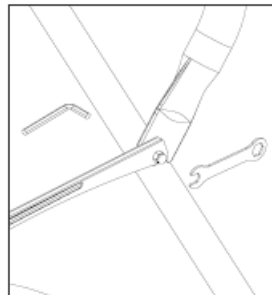

Figure 8
- Figure 8: Now tighten the Lower Handle Bolt using the 5mm Allen Wrench and Open Wrench provided, ensuring that it is fully secured but not over-tightened.